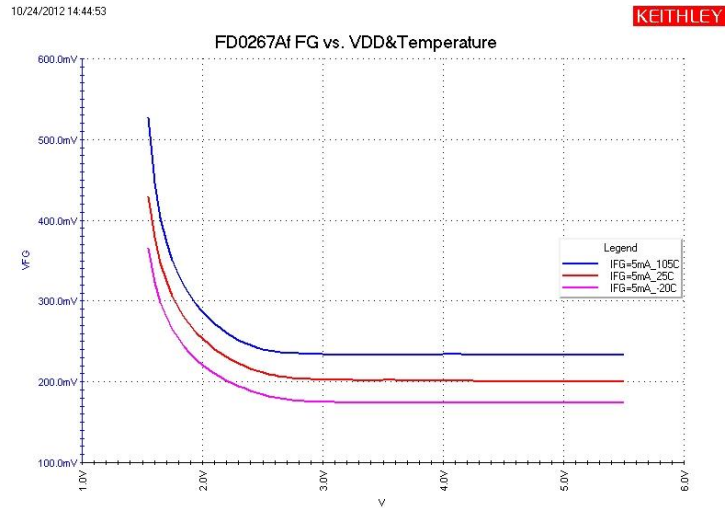

Figure 12
The output on voltage of FG signal is relative to the ambient temperature and supply voltage of the IC. Figure 12 is a curve of this relationship at the condition of a 5mA sink current. If the signal level isn't correct, the tachometer signal(FG) will be incorrectly detected by the succeeding system.